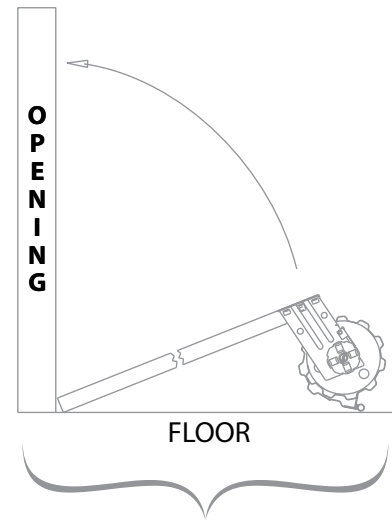

FIGURE 6
- Lift door assembly evenly, pivoting around bottom of guides. *See figure 6.*